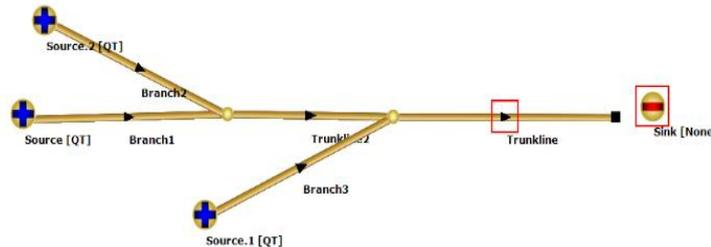

Figure 19: Sink added to the model canvas.
13. At various points while setting up the network, red squares will have surrounded the objects. The red square means that there is an issue with the object such as information is missing, or the object needs to be connected to something. In Figure 19, there is a red square around the trunkline and the newly added sink. The trunkline square is because there is nothing connected to its outlet and the sink square is because it is not connected to anything.